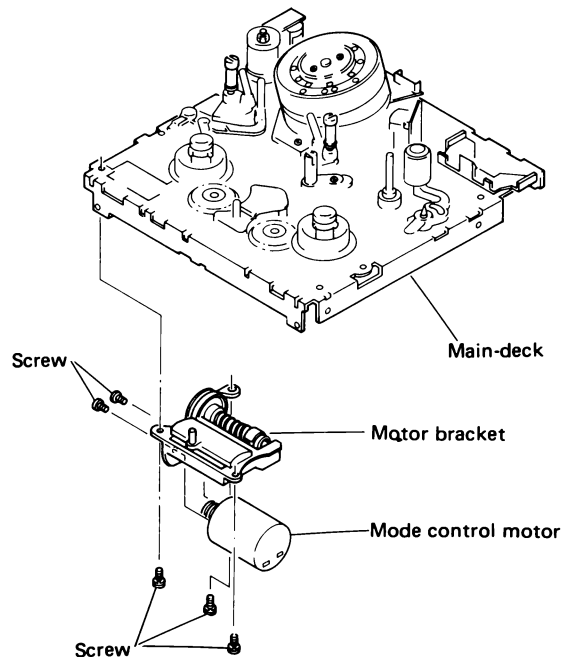

Fig. 2-11 Mode control motor replacement
2.3.6 Mode Control Motor (See Figure 2-11.)